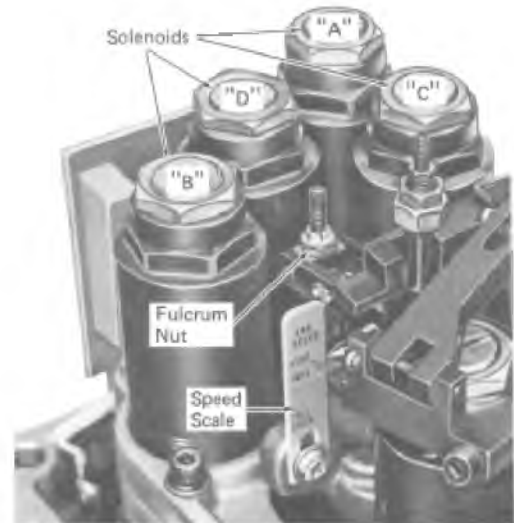

Fig. 12-6 - Speed Control Adjustment Points
1. Place the throttle in No. 6 position and bring speed to specified RPM by adjusting fulcrum nut, Fig. 12-6, at the end of the linkage. Raising the fulcrum nut increases speed.